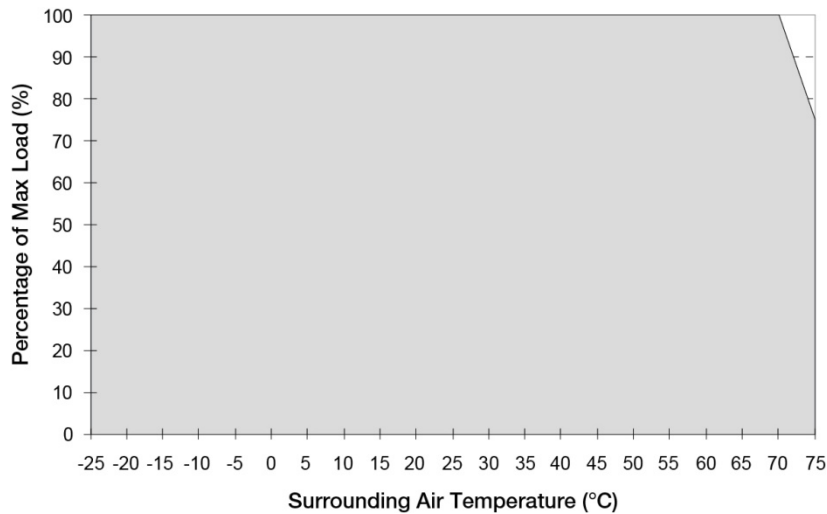

Fig. 2 De-rating for Vertical and Horizontal Mounting Orientation
1. The unit may degrade, or be damaged, when it is continuously used outside the shaded region, refer to the graph shown in Fig. 2.